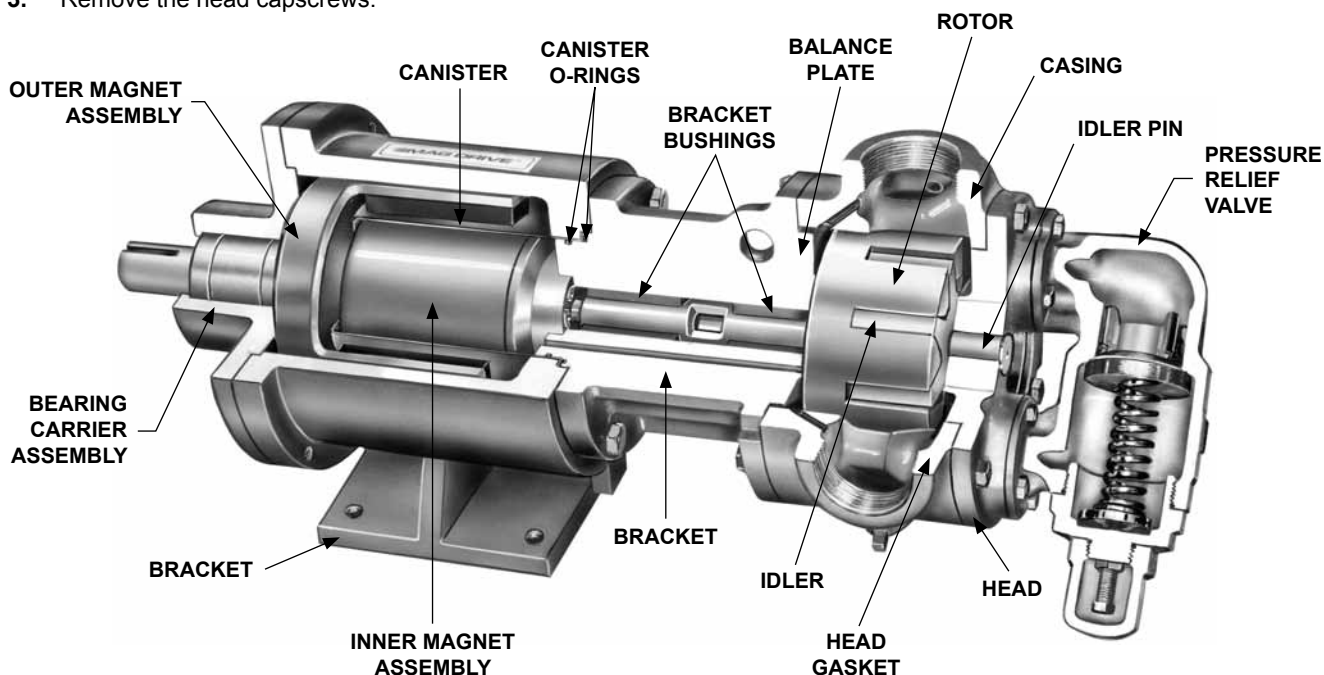

FIGURE 4
1. Refer to Figures 4, 5 & 6 for names of parts.